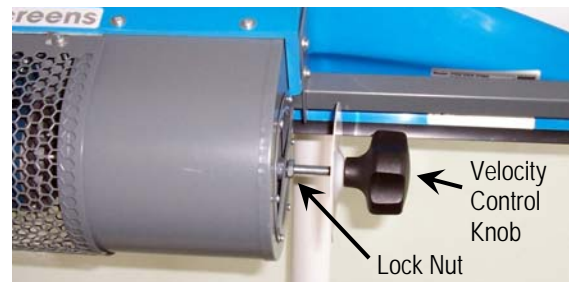

Figure 9: Discharge Air Velocity Control Knob
- 2) Rotate velocity control knob until disc is at the desired position (Figure 9 details fully open – maximum velocity)